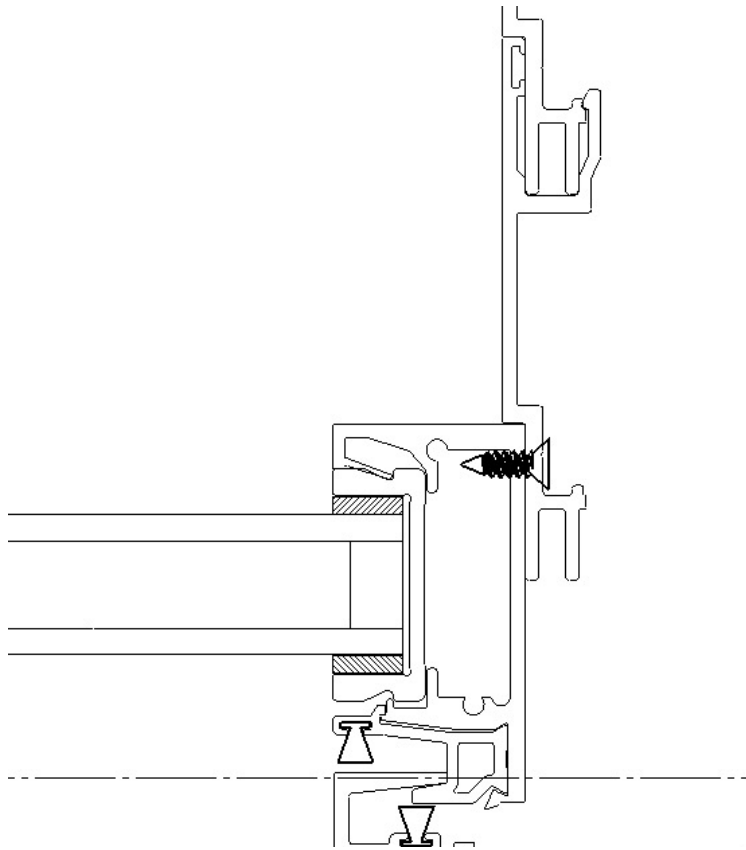

Figure 17
14. Attach the packet close out panel(s) to the pocket panel interlocker(s) using #10x1/2" PH Flat head screws. (See Figure 17).